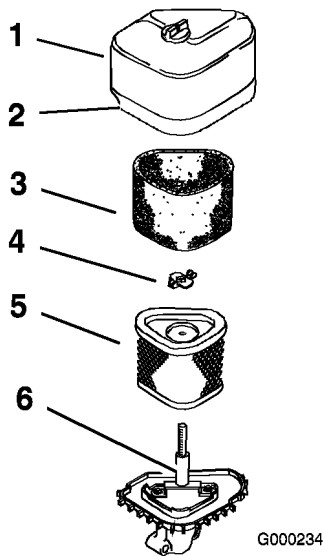

Figure 31
2. Clean around the air cleaner to prevent dirt from getting into the engine and causing damage. Unscrew the cover nut and remove the air cleaner cover (Figure 31).
3. Remove the air cleaner assembly (Figure 31).
4. Carefully slide the foam element off the paper element (Figure 31).
1. Carefully slide the foam element onto the paper air cleaner element (Figure 31).
2. Place the air cleaner assembly onto the air cleaner base (Figure 31).
3. Install the air cleaner cover and secure with cover nuts (Figure 31).